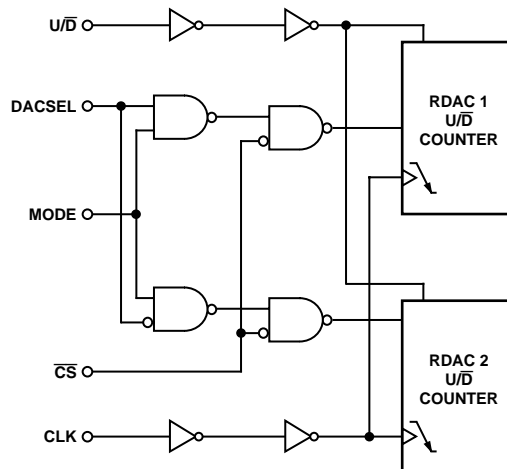

Figure 30. Detailed Digital Logic Interface Circuit
The AD5222 contains a push-button controllable interface. The active inputs are clock (CLK),  $\overline{CS}$  and up/down ( $U/\overline{D}$ ). While the MODE, and DACSEL pins control common updates or individual updates. The negative-edge sensitive CLK input requires clean transitions to avoid clocking multiple pulses into the internal UP/DOWN counter register, Figure 30. Standard logic families work well. If mechanical switches are used for product evaluation a flip-flop or other suitable means should debounce them. When  $\overline{CS}$  is taken active low, the clock begins to increment or decrement the internal up/down counter, dependent upon the state of the  $U/\overline{D}$  control pin. The UP/DOWN counter value (D) starts at  $40_H$  at system power ON. Each new CLK pulse will increment the value of the internal counter by 1 LSB until the full-scale value of  $7F_H$  is reached, as long as the  $U/\overline{D}$  pin is logic high. If the  $U/\overline{D}$  pin is taken to logic low, the counter will count down, stopping at code  $00_H$  (zero-scale). Additional clock pulses on the CLK pin are ignored when the wiper is at either the  $00_H$  position or the  $7F_H$  position. The detailed digital logic interface circuitry is shown in Figure 30.